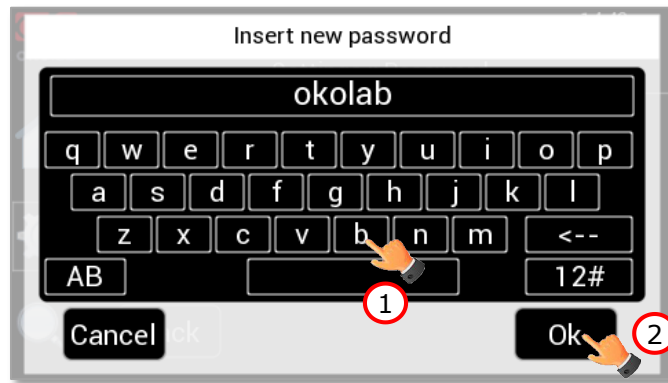

Figure 73. How to set the password.
- Once you have enabled the password the keyboard shown in Figure 73 opens and you can insert the new password. Press *Ok* to save, 2 in Figure 73